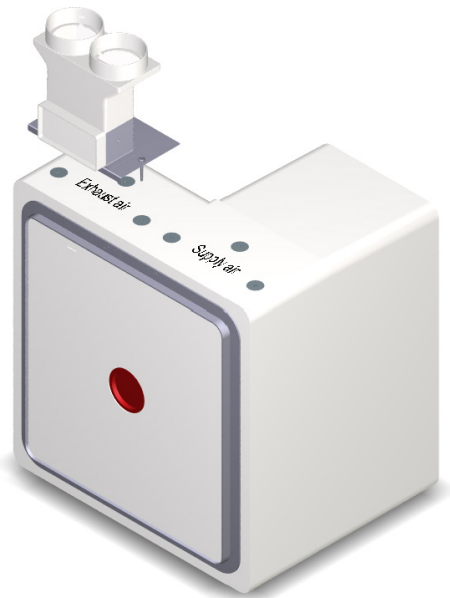

Fig. 1: M-WRG-M/MB-FR75(63)/1
- M-WRG-M/MB-FR75(63)/1 with one flexible pipe connection for exhaust air **or** supply air (see Fig. 1)